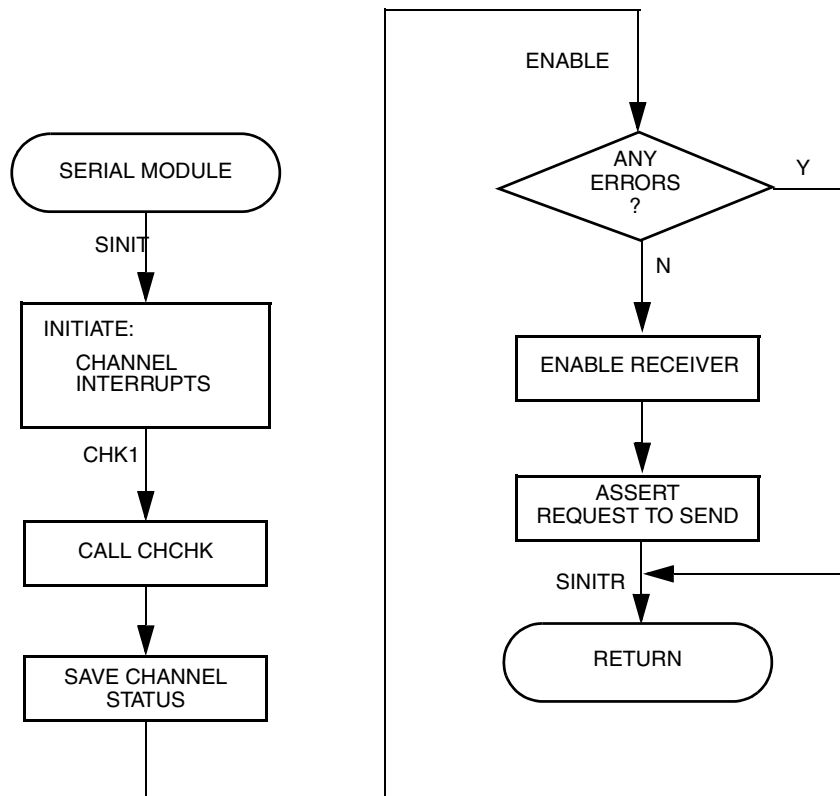
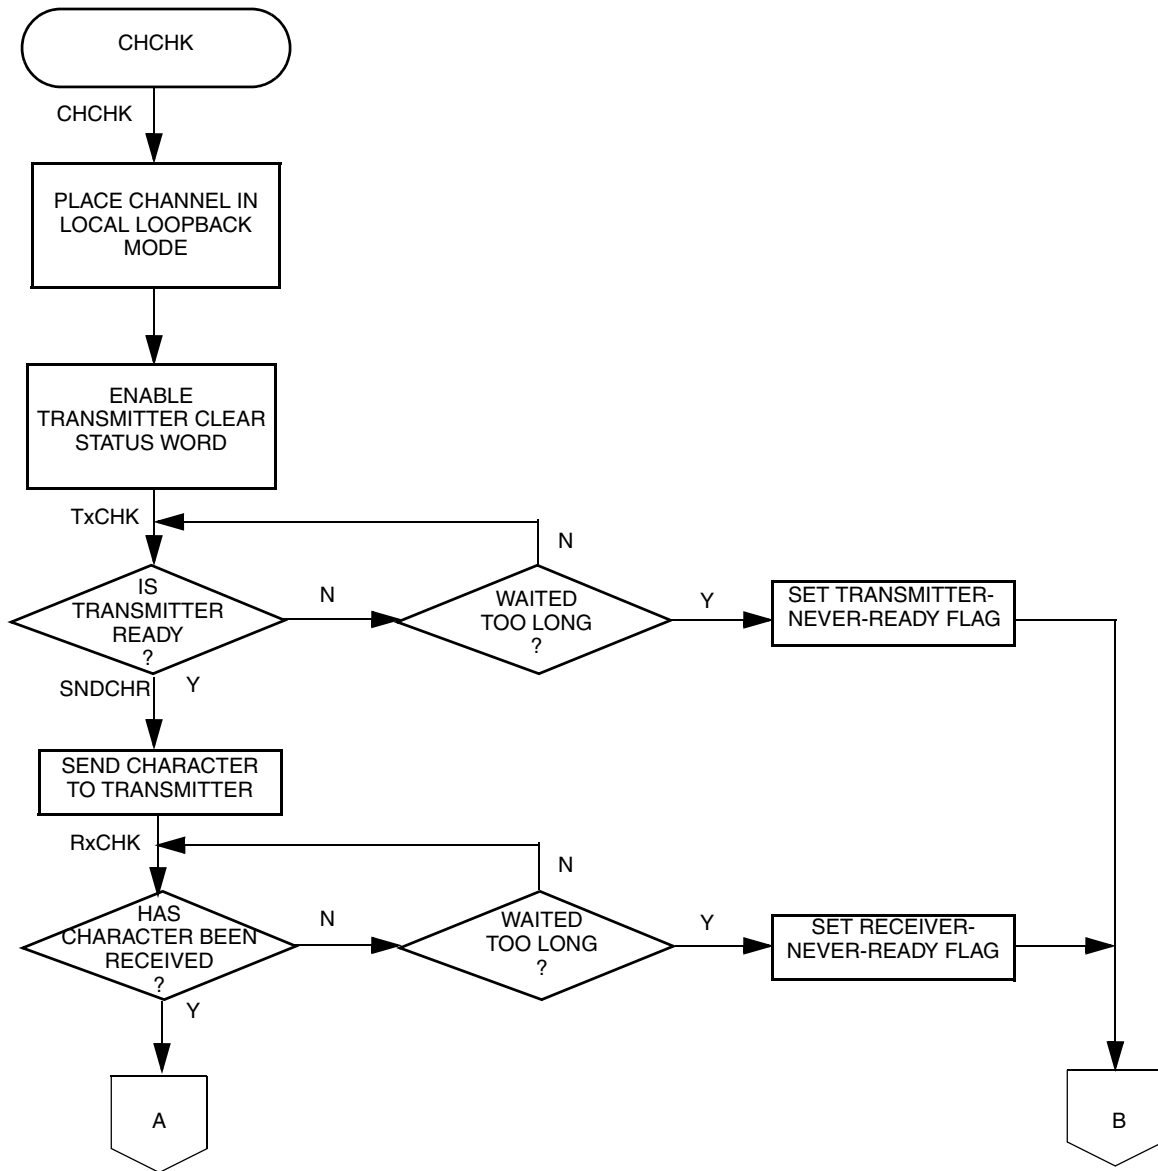

Figure 24-25. UART Mode Programming Flowchart
Figure 24-26. UART Mode Programming Flowchart (Continued)
The software flowchart, Figure 24-25, consists of the following:
- UART module initialization—These routines consist of SINIT and CHCHK (See Figure 24-25 and Figure 24-26). Before SINIT is called at system initialization, the calling routine allocates 2 words on the system FIFO. On return to the calling routine, SINIT passes UART status data on the FIFO. If SINIT finds no errors, the transmitter and receiver are enabled. SINIT calls CHCHK to perform the checks. When called, SINIT places the UART in local loop-back mode and checks for the following errors: